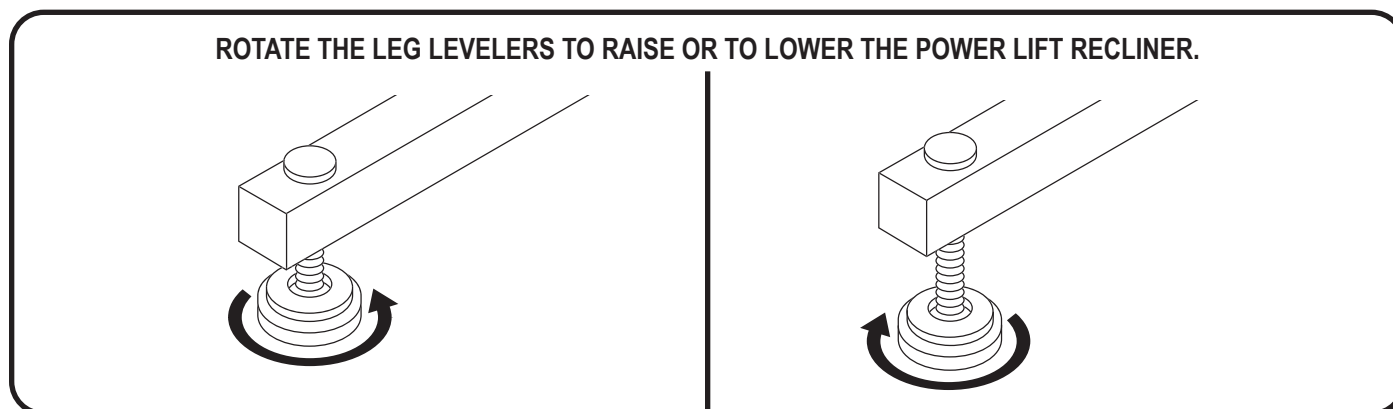

Figure 3.3 Leg Levelers
Leg Levelers: Manually rotate up or down in order to stabilise the recliner before use (Fig. 3.3).
2. Adjust the leg levelers to stabilise the power lift recliner (**Fig. 3.3**).